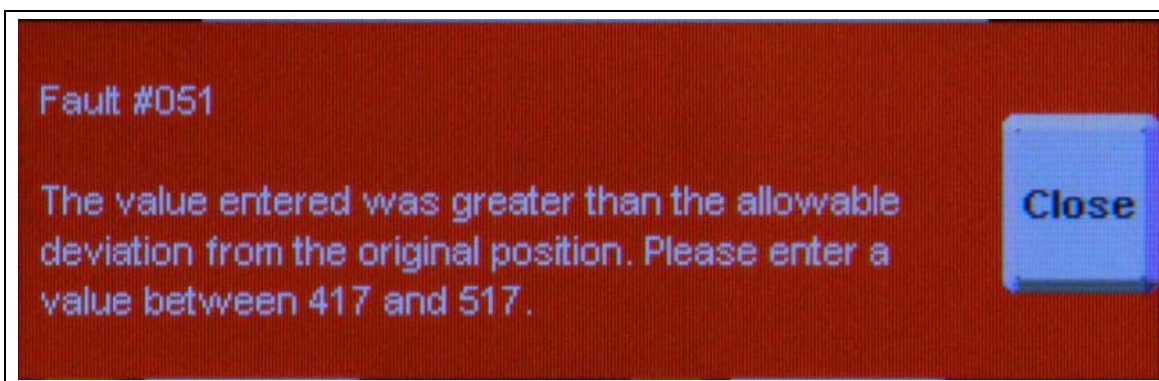

Figure 7D
**Cause:** This message will appear if the user attempts to enter a position location value that is outside the range of values allowed by the controller. This range exists to protect the equipment. To prevent this message, user should enter a value that is within the range of values displayed in the error message. (These values will vary for each controller; the values shown *in Figure 7D* will not be representative of all configurations.)